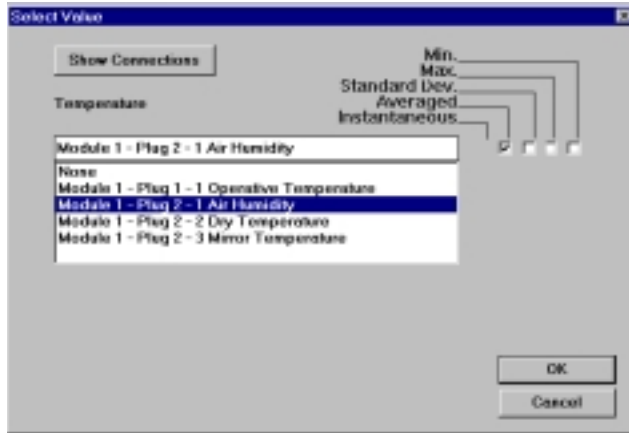

Fig.6.3 The Select Value dialogue for a temperature graph
5. Select one of the options in the list, see Fig.6.3. If you need more information about what is being measured and what is stored, click on the **Show Connections** softkey. Using this is described in section 6.4.